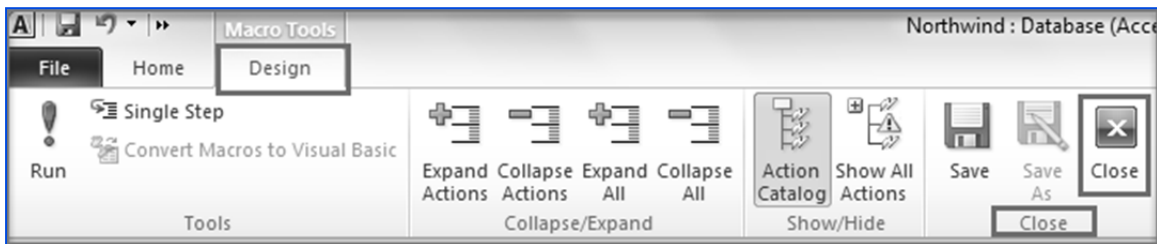

Fig. 4.2.24(A): Close the macro
7. Click *Design* -> *Close* -> *Close*, as shown in Fig. 4.2.24(A).